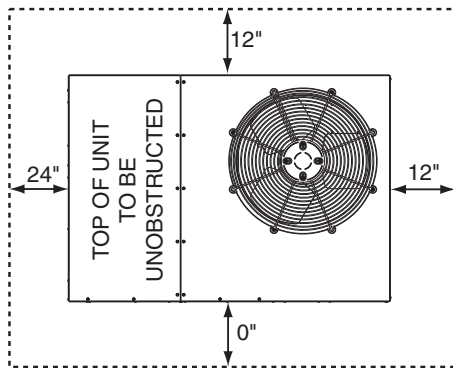

Figure 2. Minimum Unit Clearances
- Sufficient clearance for unobstructed airflow through the outdoor coil must be maintained in order to achieve rated performance. See Figure 2 (page 5) for minimum clearances to obstructions.
Minimum clearances MUST be maintained from adjacent structures to provide room for proper servicing and air circulation. DO NOT install unit in a confined or recessed area that will allow discharge air from the unit to re-circulate into the condenser air inlet, through the coil. See Figure 2.